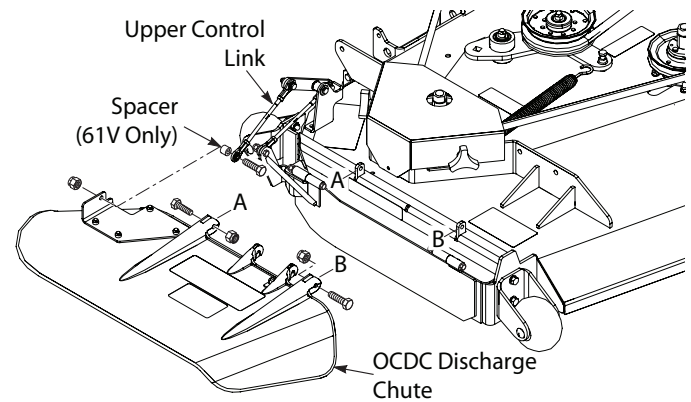

**Figure 3-16. SCZ 48V-OCDC Handle Bracket Install**
4. Install the OCDC handle bracket to the right hand fuel tanks mounting bracket as shown in Figure 3-16. Secure using two (2) 5/16-18 x 1" carriage bolts and two (2) 5/16-18 serrated flange nuts. See Figure 3-16.